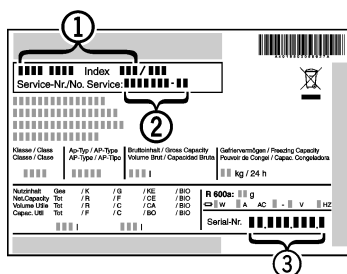

Fig. 27
- ▶ Read the appliance designation Fig. 27 (1), service No. Fig. 27 (2) and serial No. Fig. 27 (3) off the type plate located inside the appliance on the left-hand side.
- ▶ Notify the customer service, specifying the fault, appliance designation Fig. 27 (1), service No. Fig. 27 (2) and serial No. Fig. 27 (3).